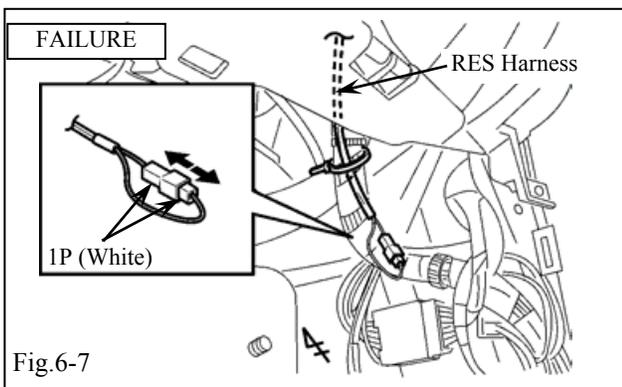

Fig. 6-7
- (j) If you failed in this procedure, the hazard lights flash twice. Registration will not set. If it did not set, disconnect and reconnect the V4 harness white 1P connector from the passenger side cowl area. (Fig. 6-7)
- (1) Disconnect the negative battery terminal, then start again from Step b.